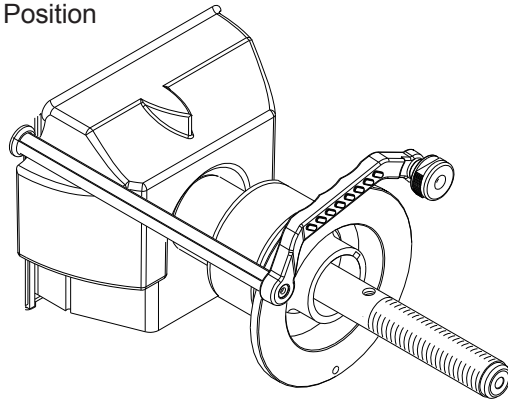

Figure 42 - SAPE RodArm Fully Extended
4. Gently pull the **SAPE** arm **OUT** until it is fully extended, (Figure 42) hold it steady for about 1 second, a tone will sound. NOTE: The SAPE arm will pull out past the Bell Housing Face.